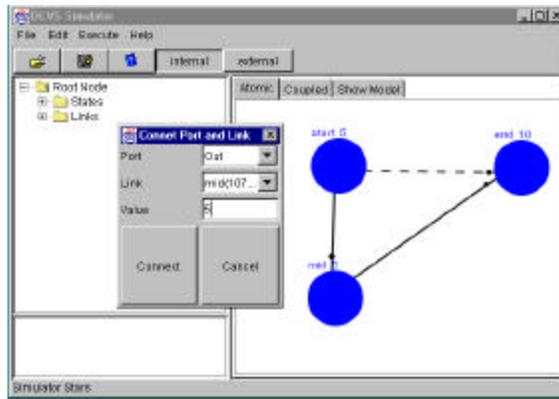

Fig 7
- After drawing the links, we need connect the link with the port. To do this, click the right on the target unit, select “Port@Link” item from the popup menu. A “Connect Port to Link” dialog will be shown. Select the target link and target port from the dialog, fill the value and click the connect button. Fig 7 shows the result.